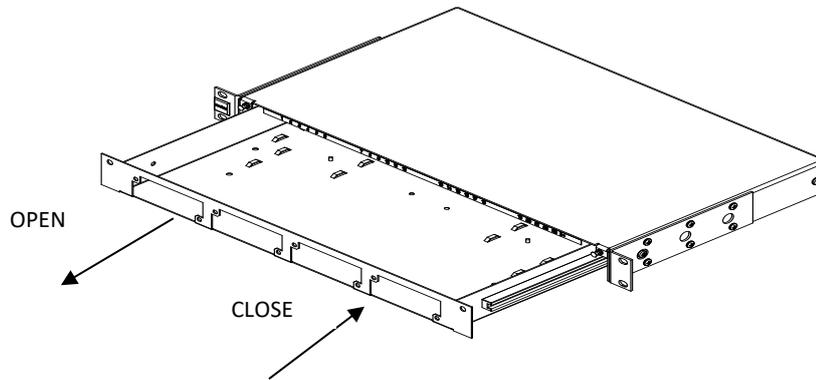

Fig.2
3.2 Open/close slide drawer (Fig.2)